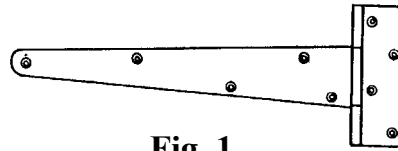

Fig. 1
1. Name the item of ironmongery shown in Fig. 1 and indicate on the drawing how its length is measured.